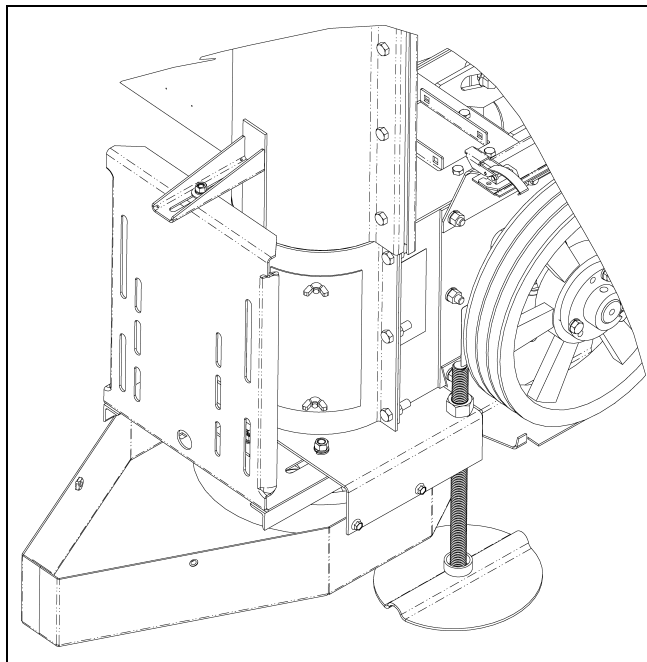

Figure 5BR
15. Loosen the four (4) clamp bolts on the auger boot and turn the vertical auger tube to the proper position. Re-tighten the clamp bolts.
16. Anchor the vertical auger tube to the bin wall by assembling the adjustable brackets to the tube and bin. The 15' vertical auger uses one set of braces and the 18' uses two (2) sets. Fasten the angle brackets to the clamping bands with 3/8" x 2" full threaded hex bolts, lock washers and nuts. Fasten the 26" long adjustable tubes to the angle brackets with 3/8" x 2" hex bolts, lock washers and nuts. Assemble the adjustable tubes to the bin wall tubes with clamping channels, 3/8" x 3" carriage bolts, lock washers and nuts. Anchor the adjustable bin wall tubes to the bin by using the backing plates on the inside of the bin and fasten with 3/8" x 1-1/2" hex bolts, lock washers and nuts. See vertical auger on Page 84.
17. Put the 4" O.D. x 2B groove pulley on the motor shaft. (A 6" discharge uses a 3-1/2" pulley.) Complete by attaching the motor to the base plate with four (4) 3/8" x 1-1/4" hex flange bolts, flat washers, lock washers and nuts.
18. Put two (2) BX-51 V-belts on the motor and auger pulleys. Adjust the pulleys until the belt alignment is proper.
19. Tighten the belt to 3/16" deflection at 10-15 lbs. by loosening the 5/16" carriage bolt on the back of mounted plate. Loosen the two (2) 3/8" carriage bolts in front of the base plate and turn the 1/2" nuts on the stud to move the motor out. After proper tension is obtained, re-tighten all nuts and bolts.
20. For bottom drive, raise the belt shield assembly and attach to the vertical boot using four (4) 1/4" x 1/2" hex flanged head bolts. Install the rain cover on the top of the vertical. (See Figure 5BR.) For top drive units, install rain cover at the same time as the belt shield.